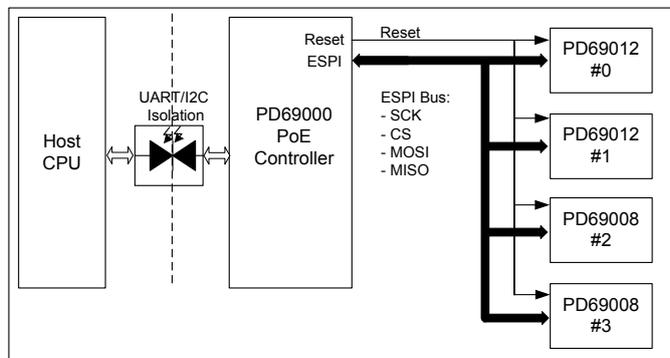

Figure 2-1: Enhanced Mode Block Diagram – Utilizing PD69000
- PoE system based on PD69000 PoE controller and four PoE managers ICs (PD69012 or PD69008), as shown in Figure 2-1. PoE managers function as slaves to a PoE Controller.